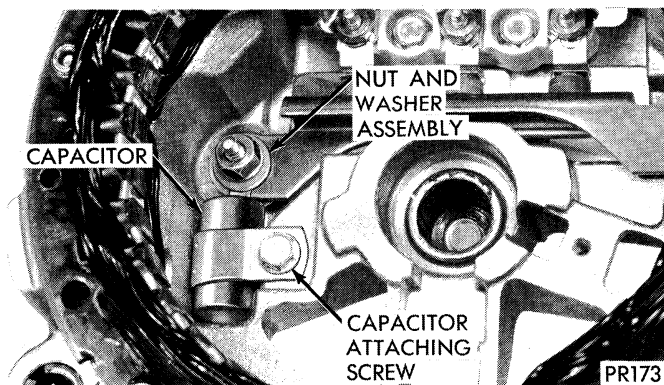

Fig. 20—Removing Capacitor
(3) Turn end shield over and remove nut and washer assembly from end shield stud (attaching capacitor) Remove screw that attaches capacitor to case, (Fig. 20).
(4) Lift out capacitor and insulated washer and heat sink assembly. Remove round plastic insulator from "BAT" terminal hole.
(5) Remove mica insulator from end shield stud. If negative heat sink diode straps were under positive heat sink diode straps perform step 1.